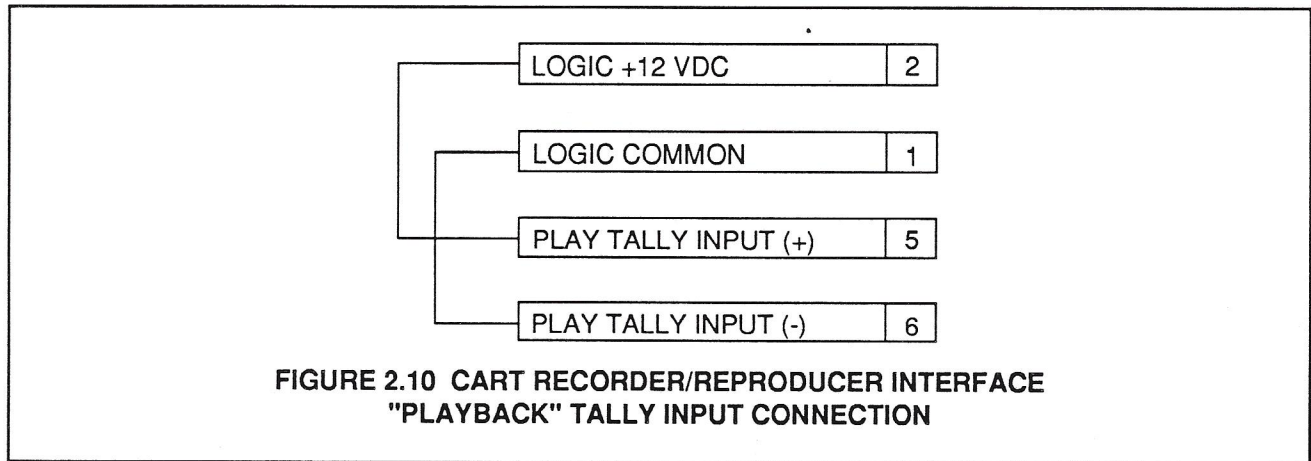

**FIGURE 2.9 CART RECORDER/REPRODUCER TALLY INPUT CONNECTION**
**NOTE:** The Cart Recorder/Reproducer Interface Module defaults to the encode mode, so that when the cart machine is in "stop" or "record ready" the user can preview the encoded signal. Therefore, the Record and Play Tally Inputs must be connected in order for the interface module to switch to the decode mode when a "play only" condition exists. Connect these inputs as shown in Figure 2.9.